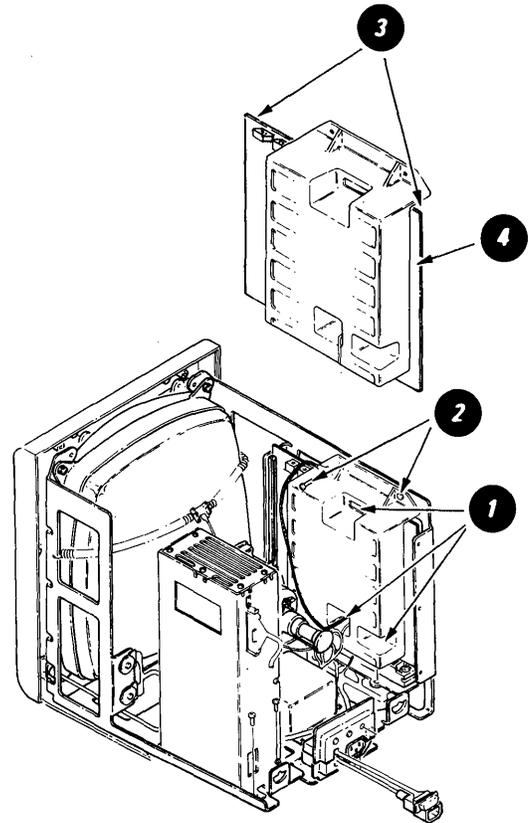

Figure 4-20. Analog Card Removal
3. Disconnect the J301, J302, J501, and J502 connectors from the analog card ①. (See Figure 4-20.)
5. Remove the two screws ② that hold the analog card and ground strap to the mainframe.